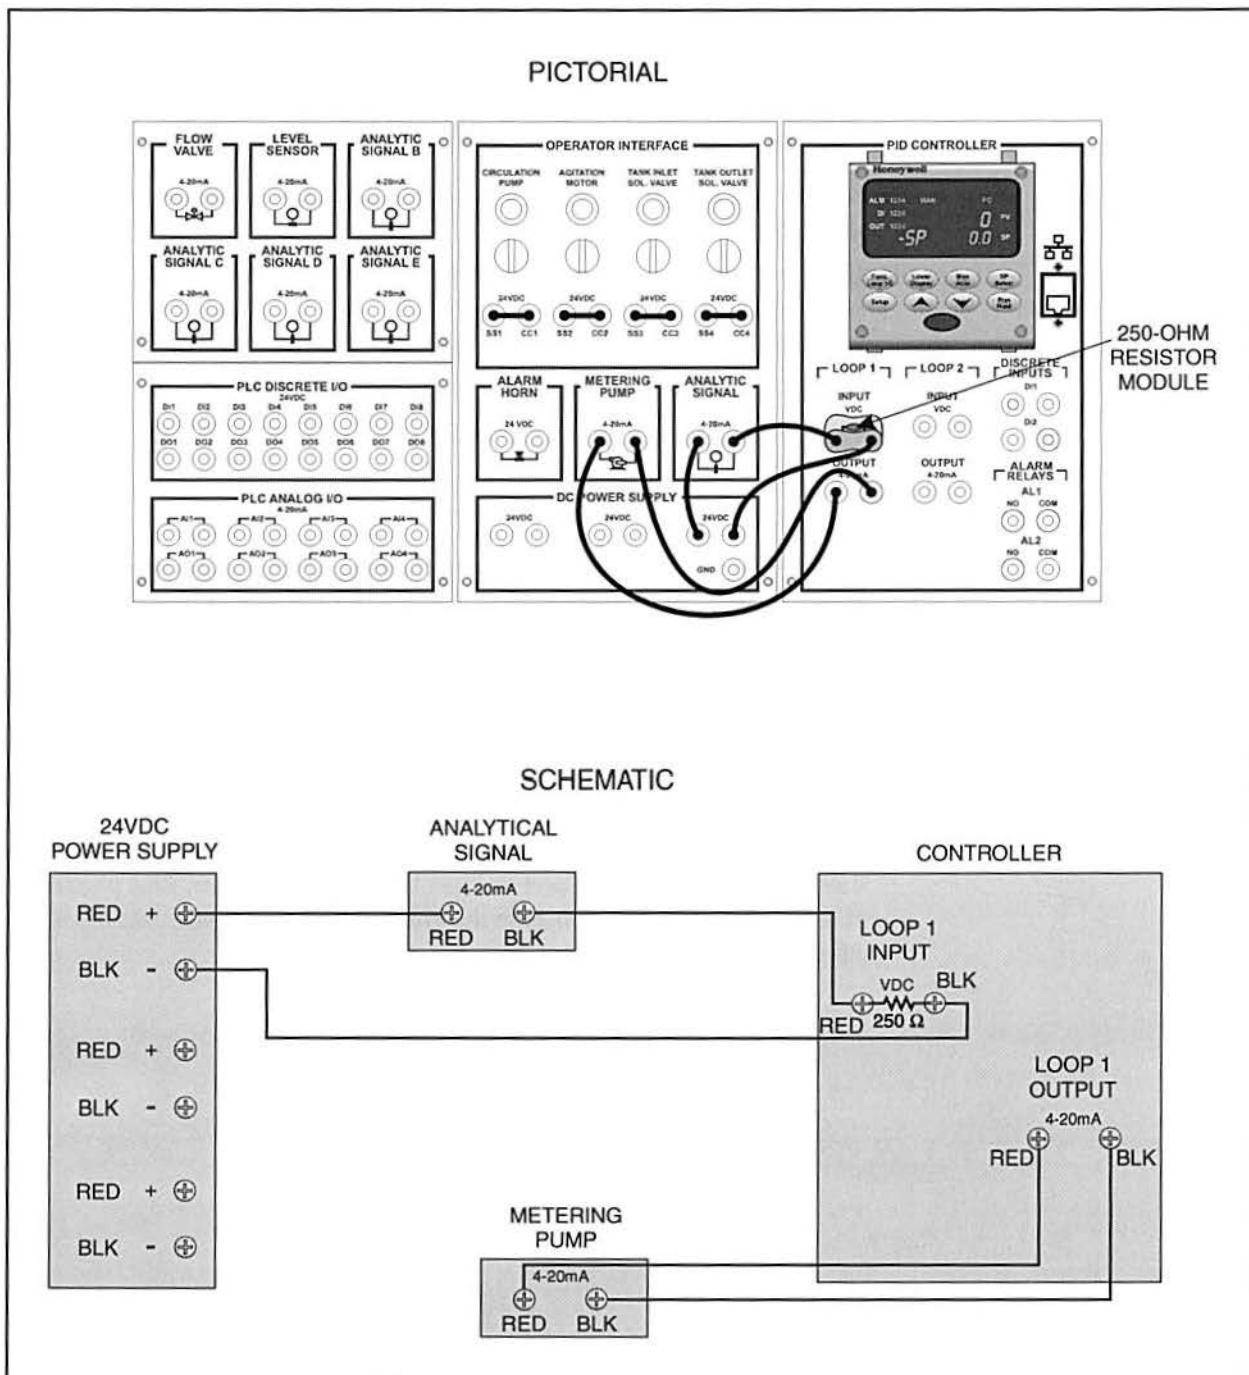

Figure 35. Continuous pH Control Circuit
□ 2. Connect the circuit shown in figure 35.